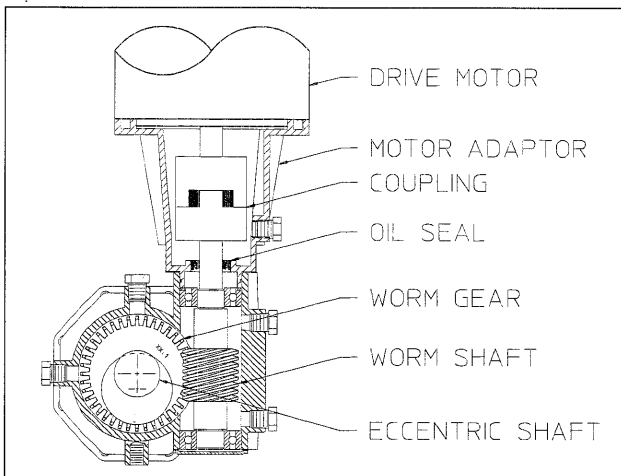

Figure 19
2. To replace the motor adapter seal, first remove the motor per "Motor Removal and Reinstallation". Loosen the coupling setscrew through the access plug hole in the motor adapter and remove the worm coupling half. Remove the four motor adapter bolts and withdraw the motor adapter from the gearbox. Take care not to loose the shims from between motor adapter and gearbox. Remove the oil seal from the motor adapter. Lubricate the replacement seal with Pulsalube 8G gear oil and install by pressing into position. Reassemble by reversing the above disassembly procedure. Refer to Figure 19.